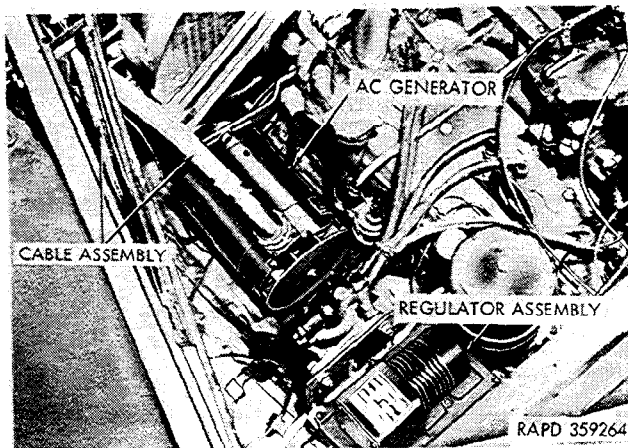

Figure 3-1. Generator and regulator, installed.
(2) Disconnect the generator-to-rectifier cable at the generator receptacle (fig. 3-1), using a suitable wrench.
(3) Remove the adjusting arm bolt, flat washer, and lockwasher securing the adjusting arm to the generator. Push the generator toward the engine, and remove four drive belts from the generator pulley.
(4) Remove the two nuts, lockwashers, and bolts securing the generator to the mounting bracket, and remove the generator.